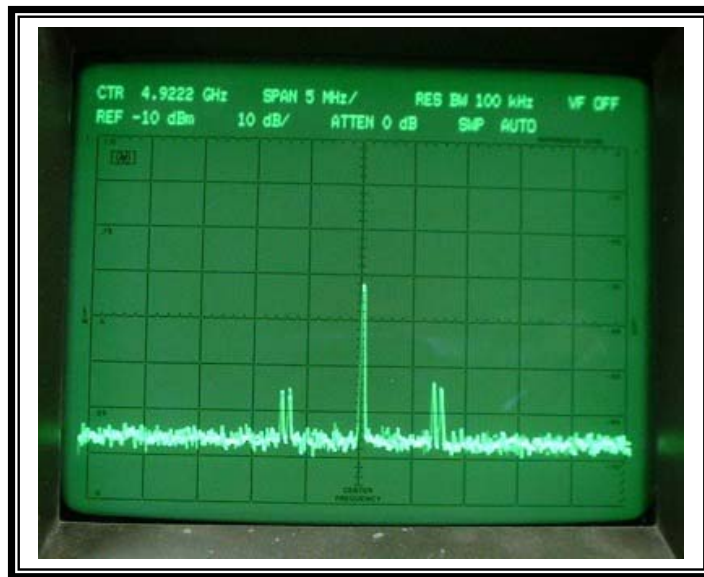

Fig. 3 AT-100 2nd Harmonic Emission -62 dBc
The requirement contained in §90.210(c)(1) is within the modulation bandwidth of the authorized emission (16MØF8W) and is not applicable in this case. With respect to §90.210(c)(2) and §74.637, emissions removed from the unmodulated fundamental by 45 MHz (250% bandwidth) were measured greater than -68 dBc in compliance with the requirement ($29 \log 45^2 / 11 \text{ dB}$ or 65.6 dBc) for such suppression. With respect to §90.210(c)(3) and §74.637, the measurement was made using a notch filter at the fundamental to prevent analyzer overload. The level of the EUT AT-100 transmitter measured +20 dBm on the spectrum analyzer before the notch filter was inserted in circuit. The level of the second harmonic is measured at -42 dBm on the analyzer placing the second harmonic at -62 dBc with respect to the unmodulated fundamental carrier. The suppression of the second harmonic exceeds -46 dBc ($43 + 10 \log (2)$) in compliance with §90.210(c)(3) and §74.637. Figure 3 shows the unmodulated main and subcarriers of the EUT AT-100 at the second harmonic frequency.